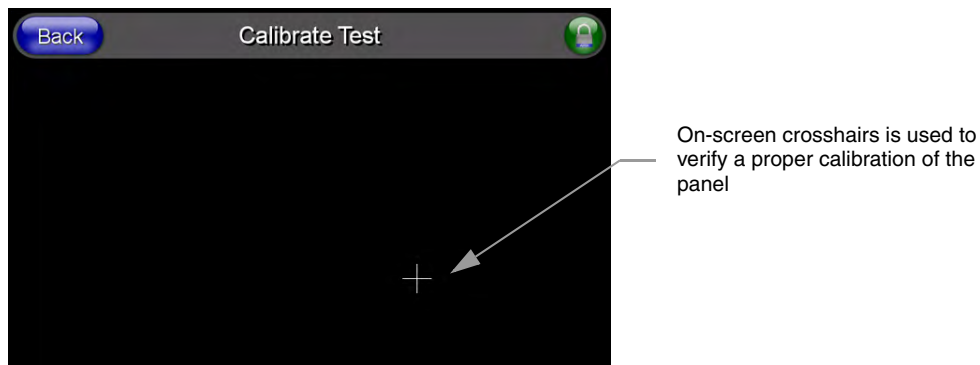

FIG. 71 Calibration Test page
1. Press and hold down the on-screen **Calibration** button for 6 seconds to enter the Calibration Test page (FIG. 71).